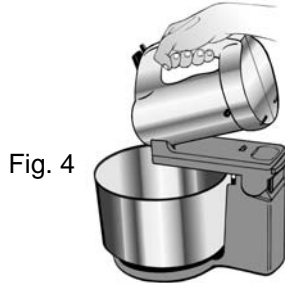

Fig. 4
- Push the power mixer down on the stand to engage the lock (Fig. 4) that secures the power mixer to the stand. (Fig. 5)